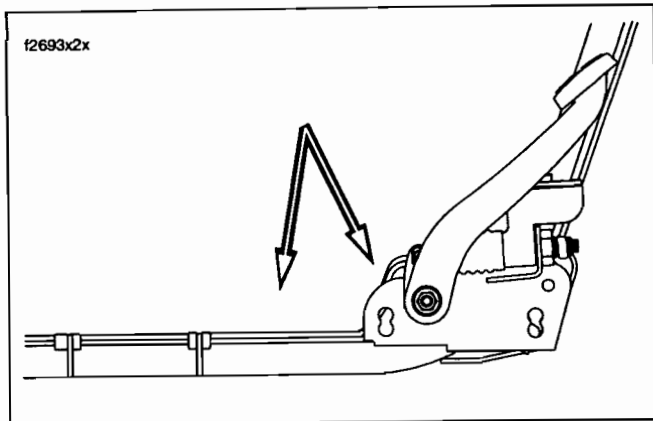

Figure 1. Brake Lines 40632-05/06 to Clutch Cable
3. See Figure 1 and Table 1. Inspect three brake lines (Part No. 40632-05/06) leading from the brake manifold and rear master cylinder to the ABS module. Pay careful attention to the following areas: